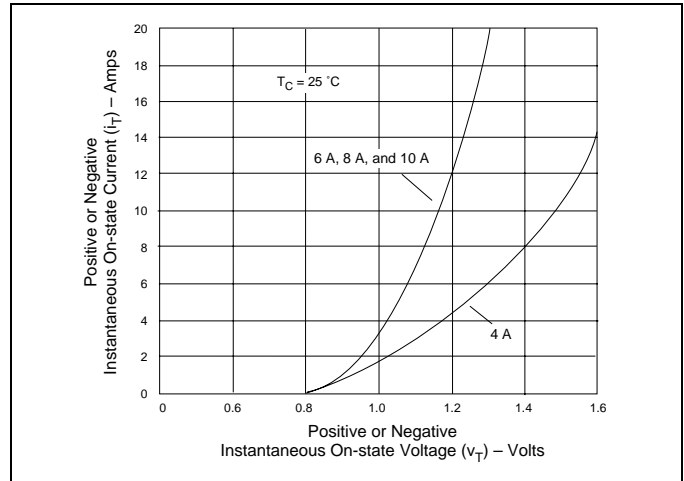
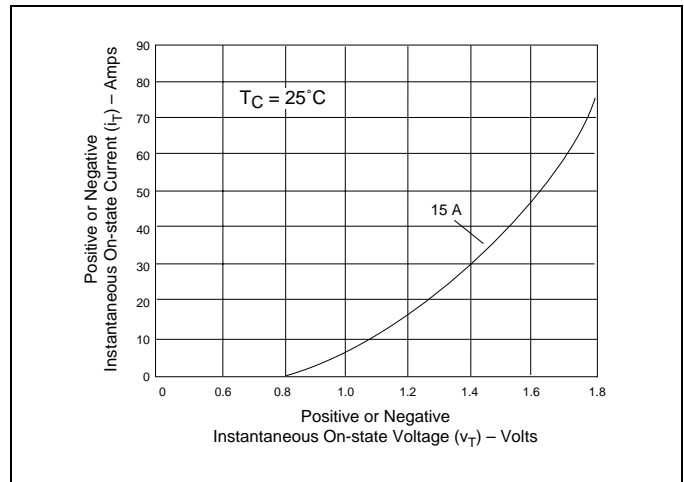

Figure E3.4 On-state Current versus On-state Voltage (Typical) (4 A to 10 A)
Figure E3.5 On-state Current versus On-state Voltage (Typical) (15 A)
- (3) See Figure E3.4 and Figure E3.5 for  $i_T$  versus  $v_T$ .